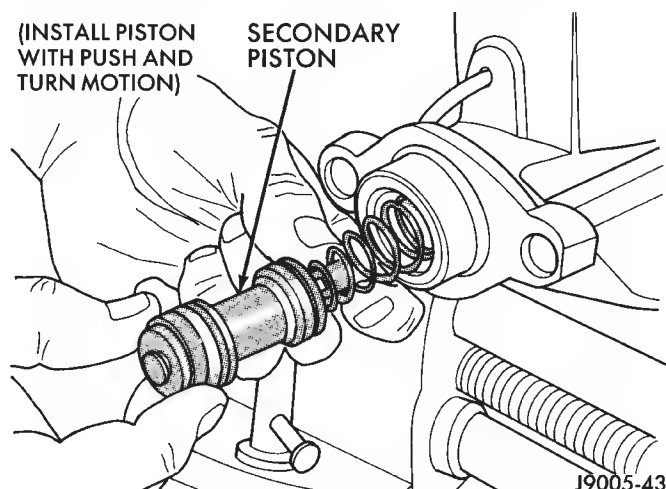

Fig. 7 Installing Secondary Piston
(1) Coat cylinder bore and new piston assemblies with brake fluid.
(2) Install secondary piston in bore with push and turn motion (Fig. 7). **Do not use any tools to start seals into bore. Tools can cut seal and scratch bore.**